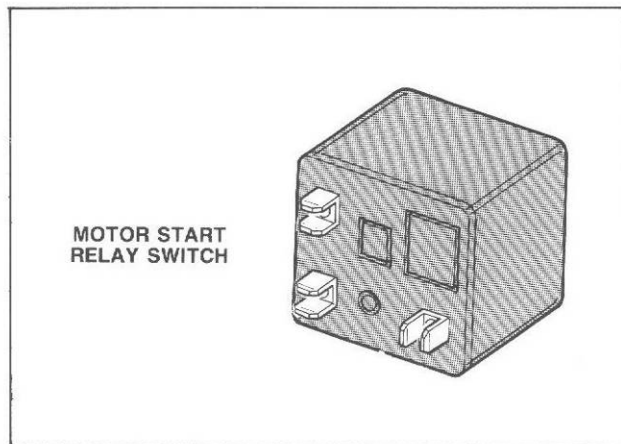

Figure 53
51. MOTOR START RELAY SWITCH (Refer to Figure 53)